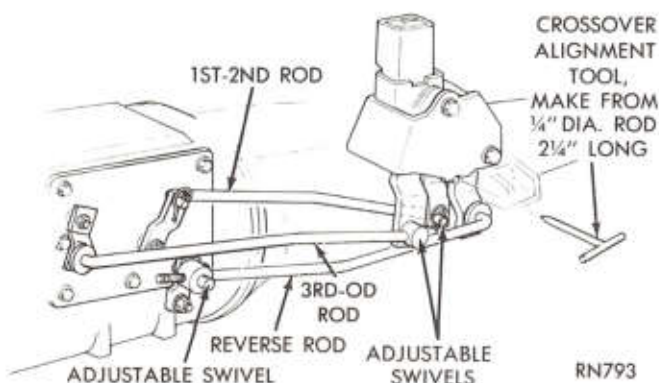

Fig. 4—Gearshift Linkage Adjustment
(1) Install aligning tool (Fig. 4) to hold the levers in the neutral-crossover position.
(2) With all rods removed from transmission shift levers, place levers in neutral detent position.
(3) Rotate threaded shift rods to make the length exactly right to enter transmission levers. Start with 1-2 shift rod (it may be necessary to pull clip at shifter end to rotate this rod).
(4) Replace washers and clips.
(5) Remove aligning tool and test shifting action.